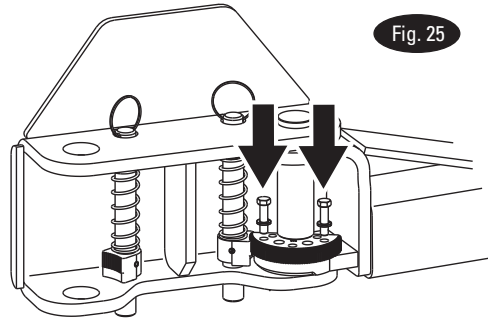

Fig. 25
Arms With 5 Holes In Bearing Bar: Then, install the (2) 3/8"-16NC x 1-1/2" HHCS (8 total for all 4 arms) and 3/8" Spring Lock washers into the gear and arm. Reference Fig. 25, Fig. 26, and Fig. 27. Torque the Restraint Gear bolts to 30-34 ft-lbs (41-46Nm).